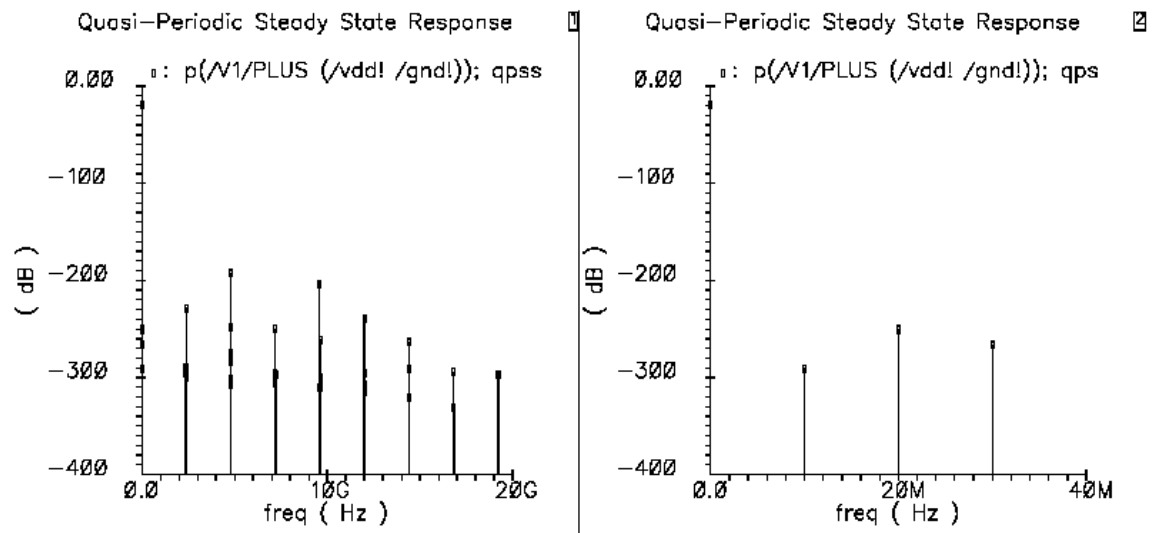

Fig 8: Large Signal Voltage Conversion Gain
- *You will see the plot as shown in Fig 8*